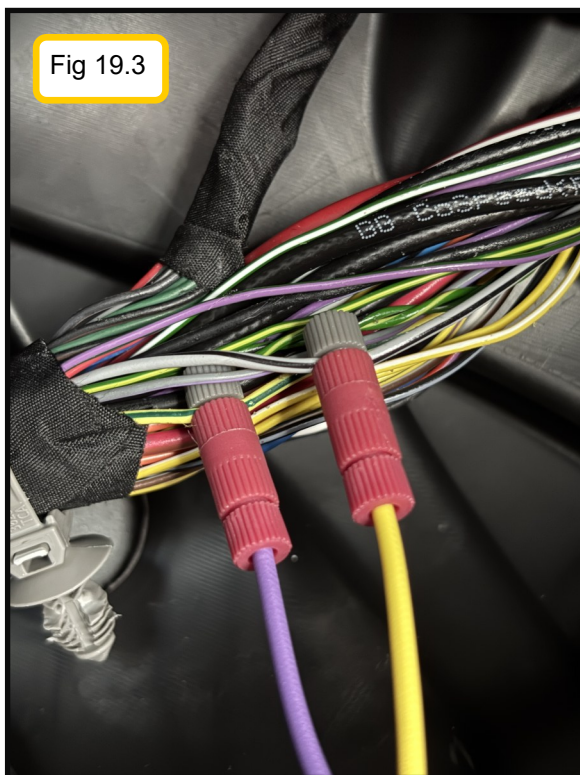

Fig 19.3
3. Locate the grey with black stripe and yellow with green stripe wires in this bundle. (Fig 19.3)
4. Install the Posi-Taps following the instructions on page 11 using harness 74341 tapping wires. (Fig 19.3)